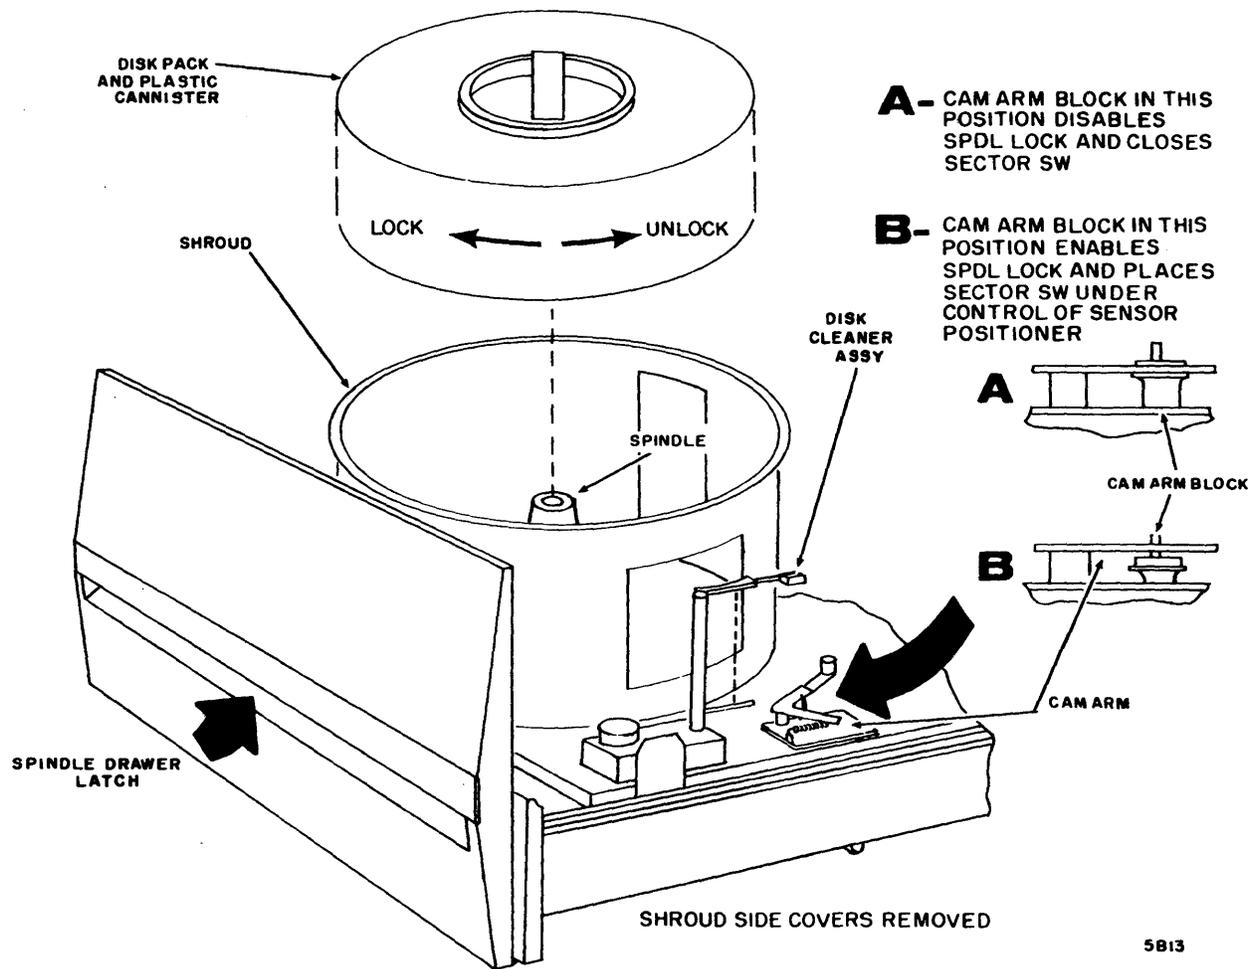

Figure 2-2. Disk Pack Load/Unload Mechanics
1. Release the front latch (Figure 2-2) on the desired spindle drawer and pull the drawer out to the stop.
If a maintenance situation requires the spindle drawer to be open (in either direction) while the spindle rotates, refer to Figure 2-2 and position the cam arm block to disable the spindle lock.
3. Release the front latch (Figure 2-2) on the desired spindle drawer and pull the drawer out to the stop.